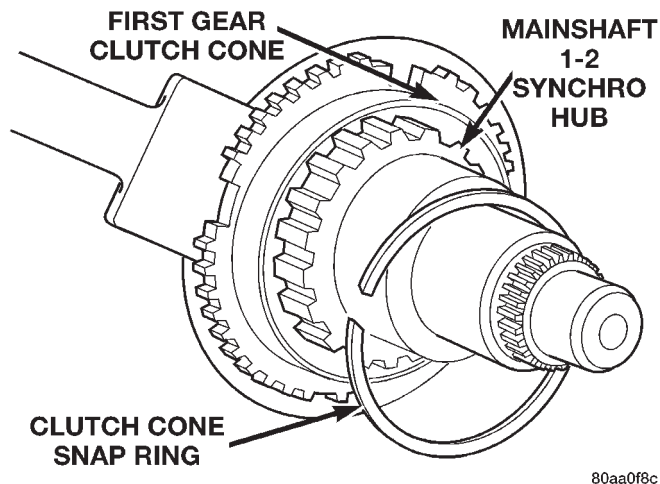

Fig. 94 Installing First Gear Clutch Cone Snap Ring
- (3) Install snap ring on mainshaft 1-2 synchro hub to secure clutch cone (Fig. 94). Be sure snap ring is fully seated in hub groove and against clutch cone. Note that this is second of four snap rings used to secure synchro components on shaft hub.